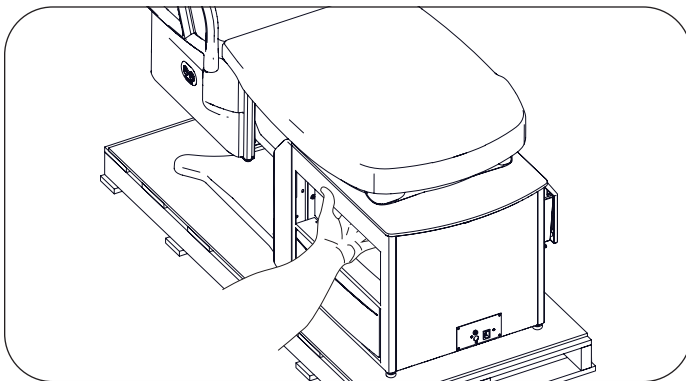
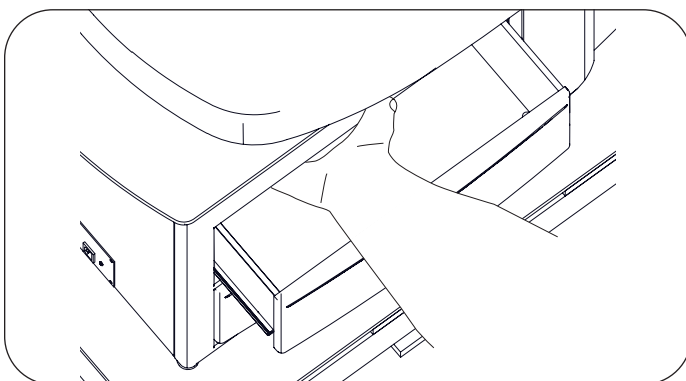
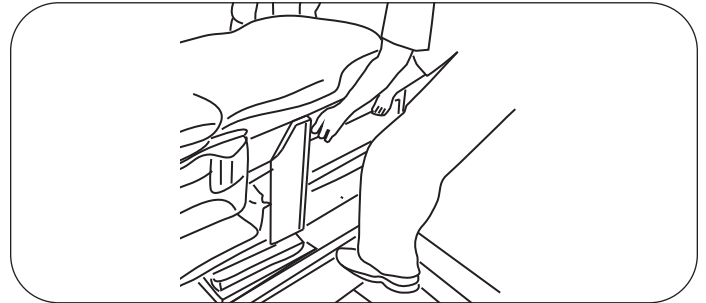

Figure 19. Left Rear Hand Hold
Figure 20. Right Rear Hand Hold
Figure 21. Rear Lift Points
20. Rear lifting points are provided by the top rear pass through drawer openings at the left and right sides (Figure 19, Figure 20, Figure 21).